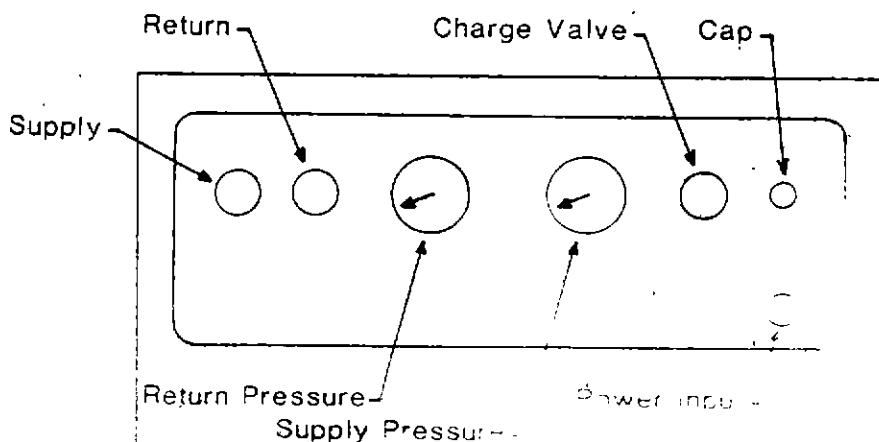

fig 2.6
- (a) Remove cap (fig. 2.6)
- (e) Turn charge valve (fig. 2.6) ON slowly, when SUPPLY pressure gauge and or regulator gauge reach 295 PSI turn OFF charge valve.